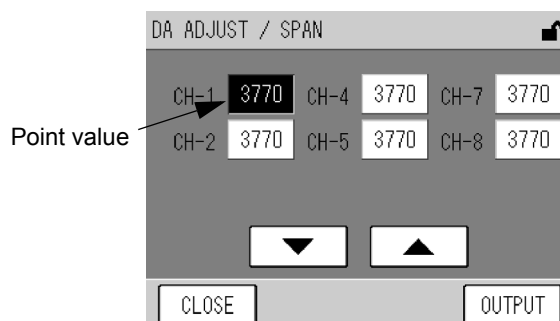

Fig. 62 DA ADJUST/ SPAN screen
- [SPAN]: Displays the DA ADJUST/ SPAN screen for span calibration of analog output (Fig. 62 on page 49).